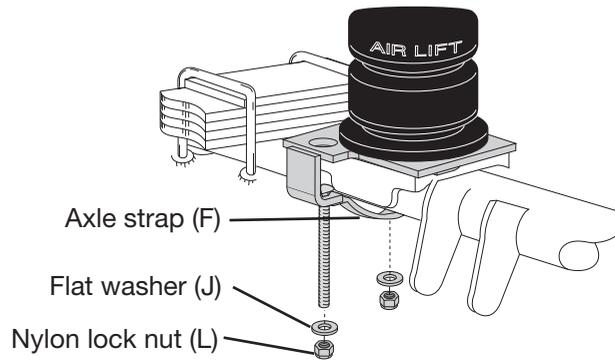

fig. 9
- Attach the axle strap (F) to both lower bracket carriage bolts using two flat washers (J) and two nylon lock nuts (L). Torque evenly to 16 lb.-ft. (22Nm) (Fig. 9).